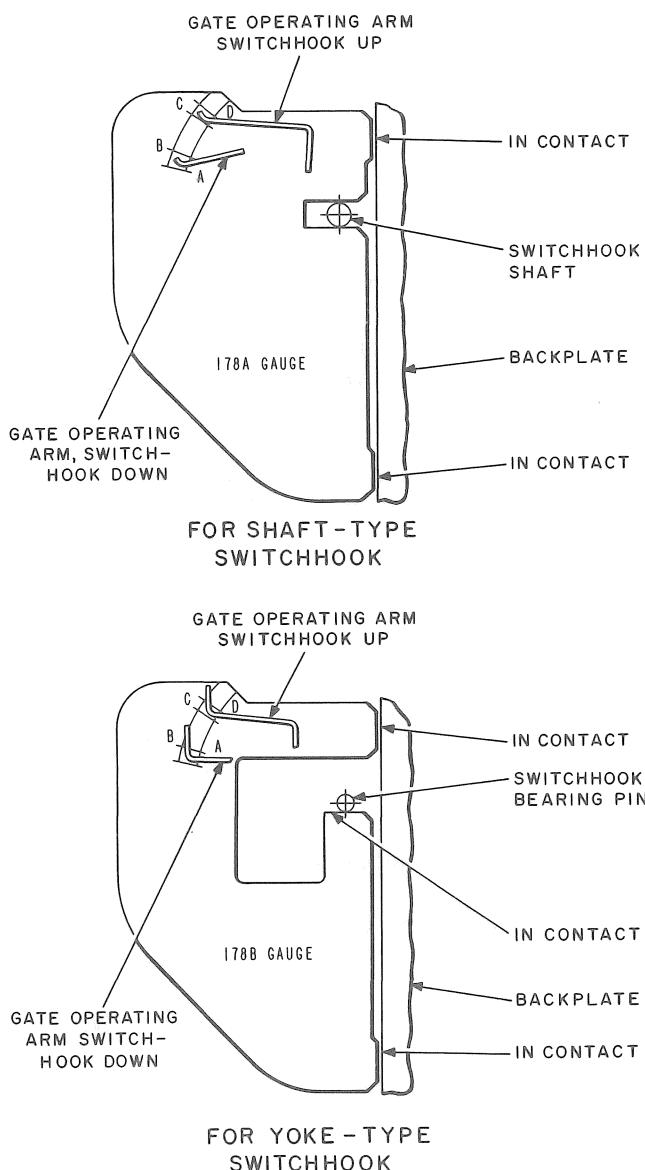

Fig. 39—Use of 178-Type Gauge
- (1) Deposit a single nickel which should be stopped by holding latch.
- (2) Lower switch hook slowly to release nickel.
- 6.70** If requirement in 6.69 is not met, check operating arm using 178A or 178B gauge (Fig. 39).